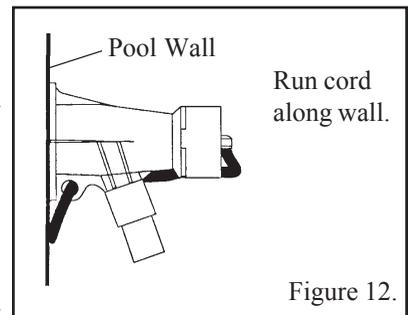

Figure 12.
4. Route cord through the cord hole in the body; see Figure 12.
12. Snap cap onto end of body and turn so that the electrical cord is pointing down; see Figure 12.